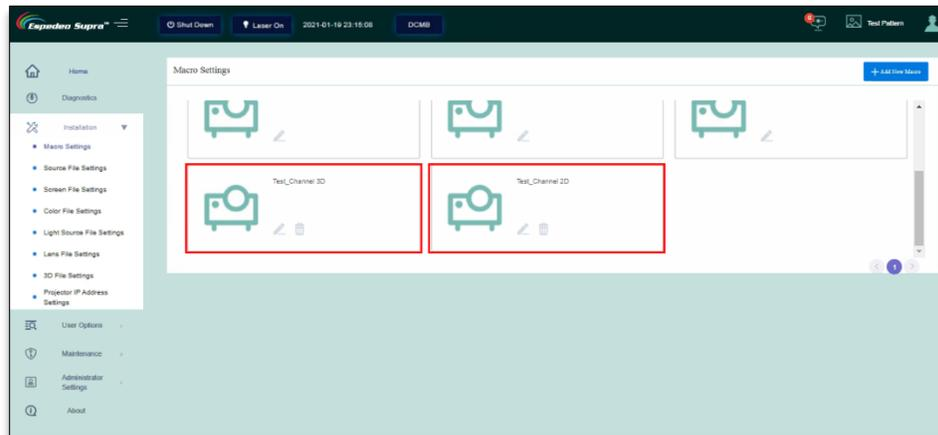

Figure 25:
- III. You can now view the created macros under **Macro Settings** as shown in **Figure 25**.